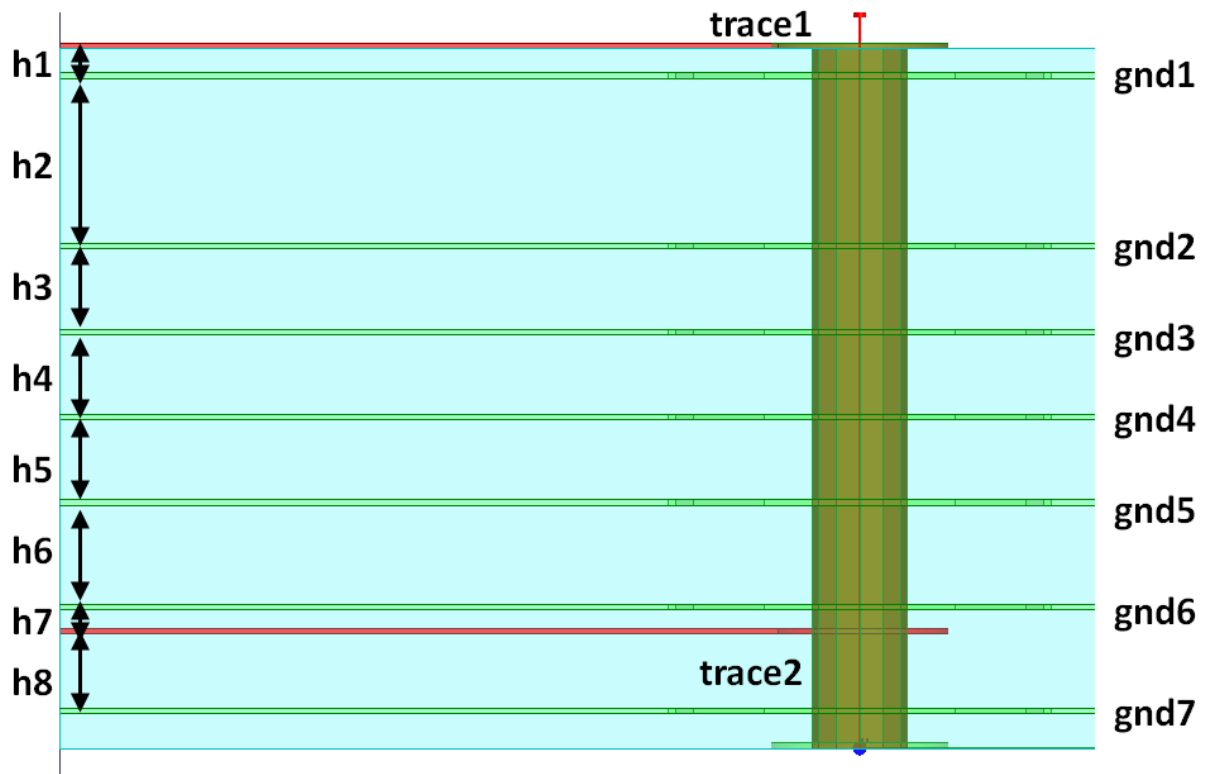

Figure 5. Locations of ground planes
2. The locations of the ground planes are illustrated in Figure 5. We use **hx** to denote the separation of two planes/traces and **hx is measured from the lower surface of one plane/trace to the upper surface of another plane/trace, e.g. h1 is measured from the lower surface of trace1 to the upper surface of gnd1**